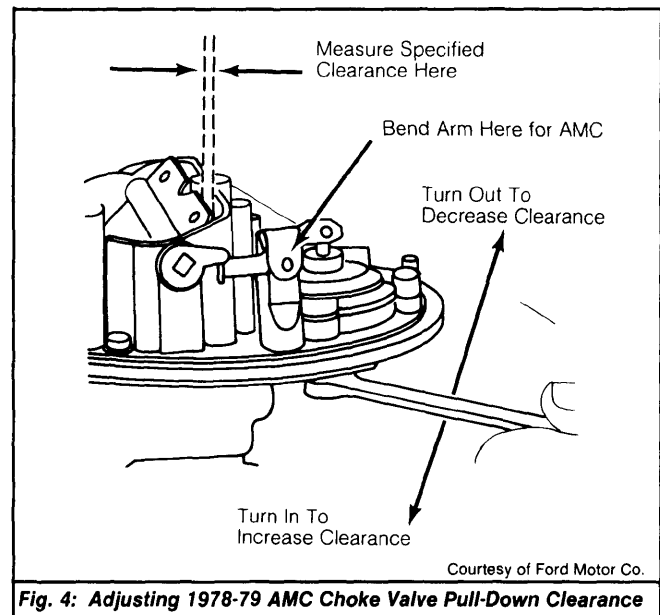

Fig. 4: Adjusting 1978-79 AMC Choke Valve Pull-Down Clearance
- 4) To adjust clearance on 1975-77 models, carefully twist connecting arm between choke linkage and choke valve pull-down assembly. On 1978-79 models, turn screw on bottom side of choke valve pull-down assembly. See Fig. 4.